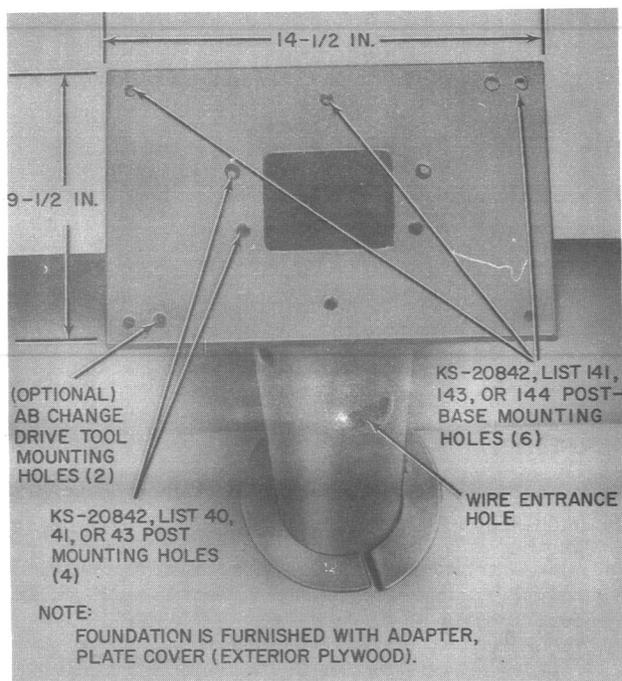

Fig. 15—KS-21976, List 11 Foundation
F. KS-21976, List 11 Foundation (Fig. 15)